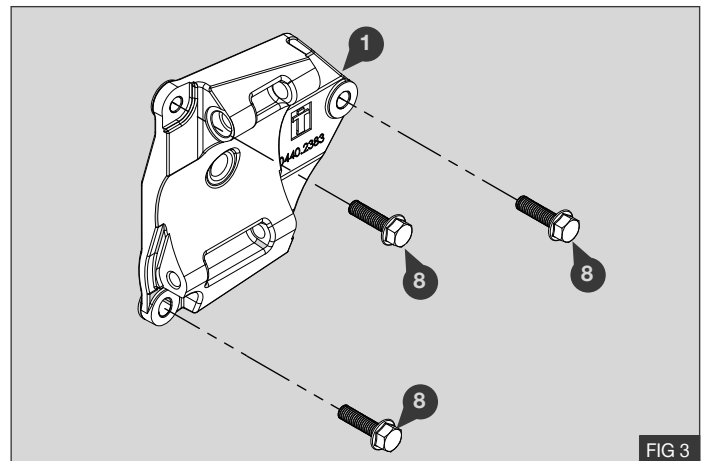

FIG 3
1. Install the supplied bracket **(1)** using bolts contained in the fastener pack **(8)** - Fig 3
2. Torque M8 x 30 bolts **(5)** to 29Nm / 21.4Lb ft - Fig 3